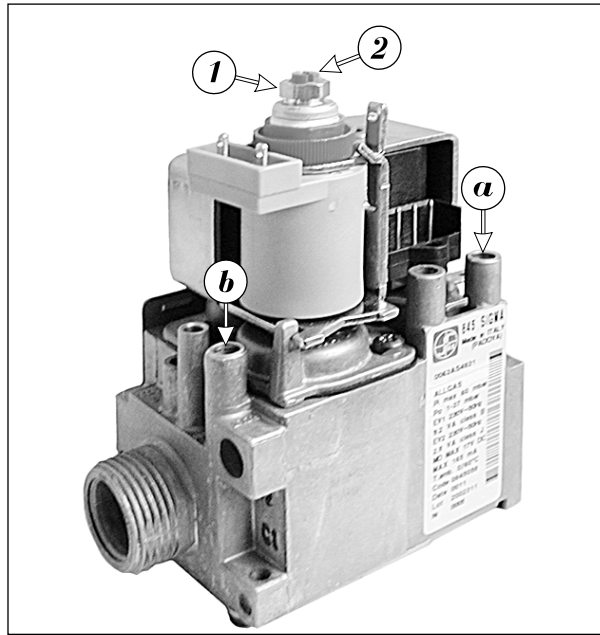
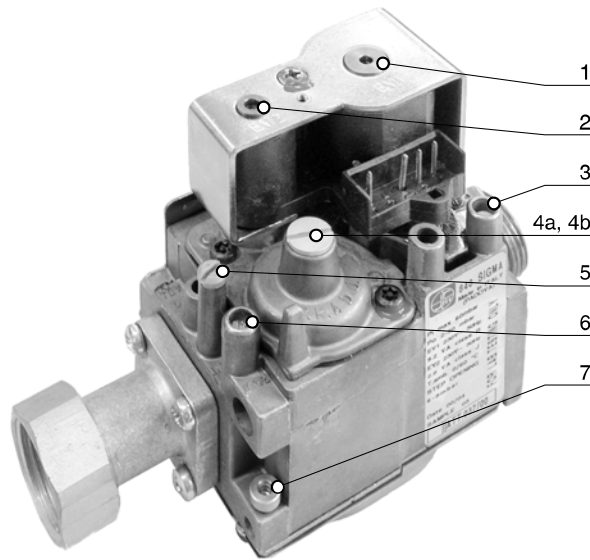

Fig. 5a Regulation elements of "SIT 843" combined gas armature (for boilers 20, 30, 40, 50 KLO)
Fig. 5b Regulation elements of "SIT 840 SIGMA" combined gas armature
Such setting is done by the controls on the combined gas armature (cf. Fig. 5a, 5b), in the order: maximum (i.e., rated), reduced (only for 20, 30, 40, 50 KLO). The pressure is measured by a "U" manometer (against the atmospheric pressure).
- Remove the plugs (A - Fig. 5a, 4a - Fig. 5b)
- Unfasten the closing screw (2 - Fig. 5a, 6 - Fig. 5b) of the gas output pressure measurement point and insert the "U" manometer's tube.
- Turn the adjustment screw (B - Fig. 5a, 4b - Fig. 5b) to set the gas pressure 125 mm water column for natural gas, 270 mm water column for LPG.